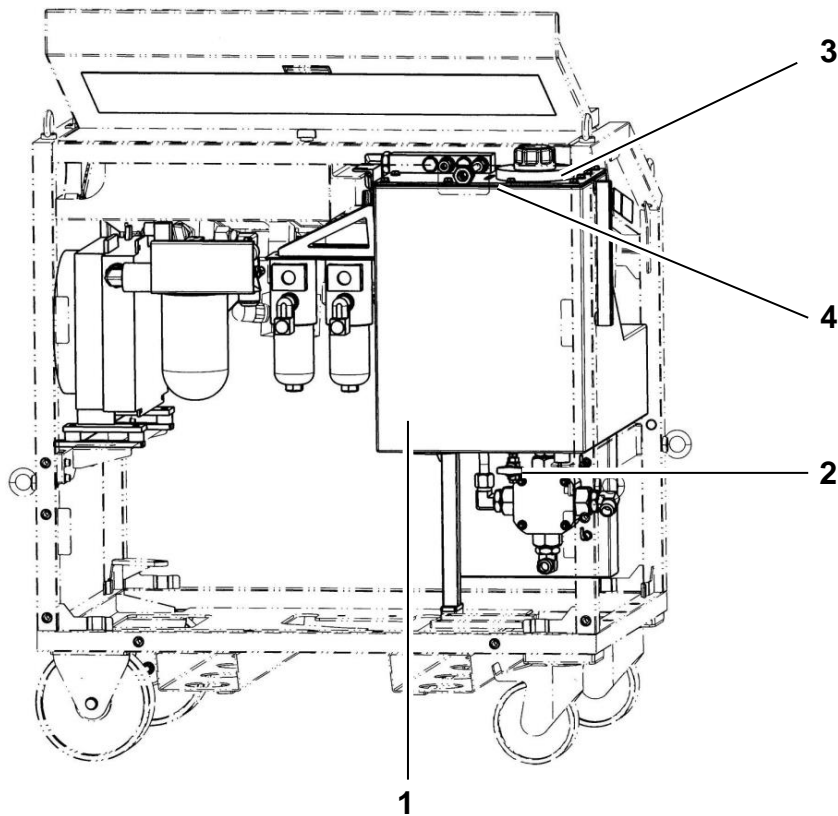

Fig. 5.4 CLEANING OF RESERVOIR
5.3.3 CLEANING OF RESERVOIR (RIF. FIG. 5.4)